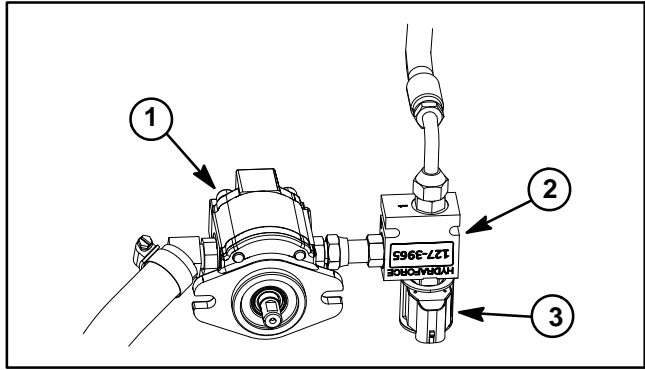
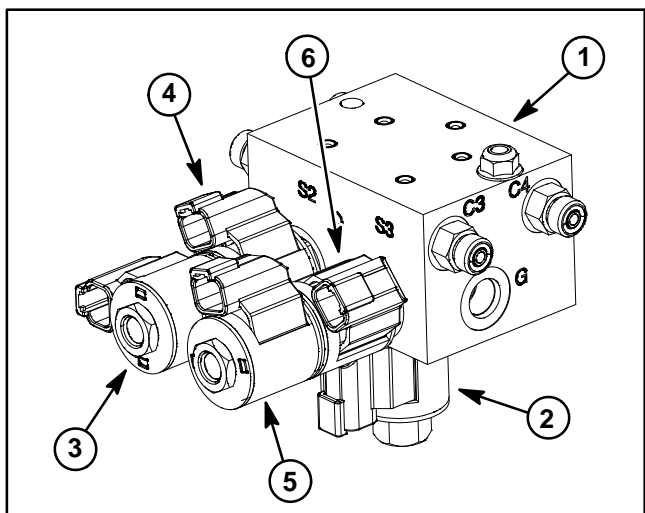
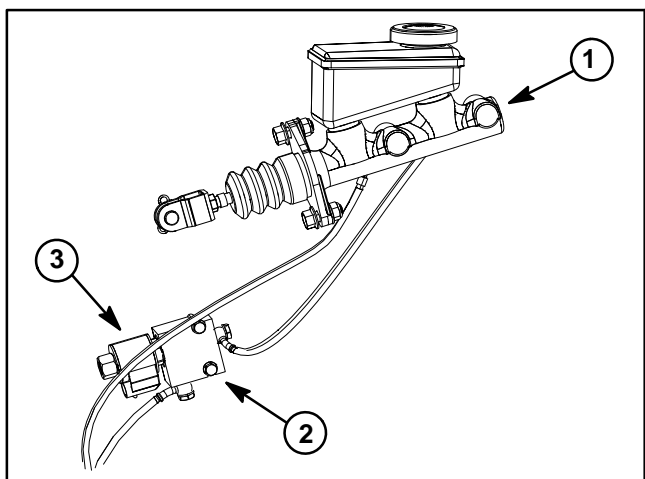

Figure 77
Figure 78
Figure 79
The Multi Pro 1750 hydraulic system uses several hydraulic solenoid valve coils for system control. The hydraulics enable valve assembly includes one (1) solenoid valve (Fig. 77). The boom lift control manifold includes five (5) solenoid valves (Fig. 78). The brake hold valve in the brake system also includes a solenoid valve (Fig. 79). When the solenoid coils are energized, hydraulic valve shift occurs to control hydraulic flow. Testing of the coils can be done with the coil installed on the hydraulic valve.